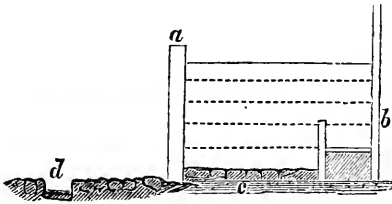
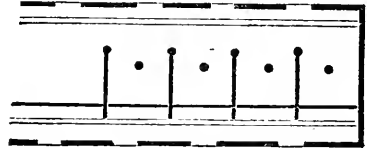

Fig. 123.
Fig. 124.
*a*, fig. 123; this has a groove chiseled into it, to receive the partition plank; another groove for the other end is made in a stud at the back of manger, *b*. To prevent the decay of these plank, they should rest on curb-stone, *c*, set into the ground. The floor on which the fore feet stand, and on which the animals must kneel in lying down and rising, should be compact earth, well covered with straw, so as to be soft and comfortable. The hinder portion of the floor should be paved, or flagged with very thick solid flag-stones. A gutter, *d*, for the manure should be formed of smooth flag-stones, with curb-stones on each side, so that it may be just wide enough for a common square shovel to work in, and by which it may be easily and effectually cleaned. This gutter may be made of plank, but this soon decays. Stalls are often made seven feet wide, each for two animals, a stout post only being placed midway between them, fig. 124. This has the advantage of securing more circulation of air, and more room for cleaning.